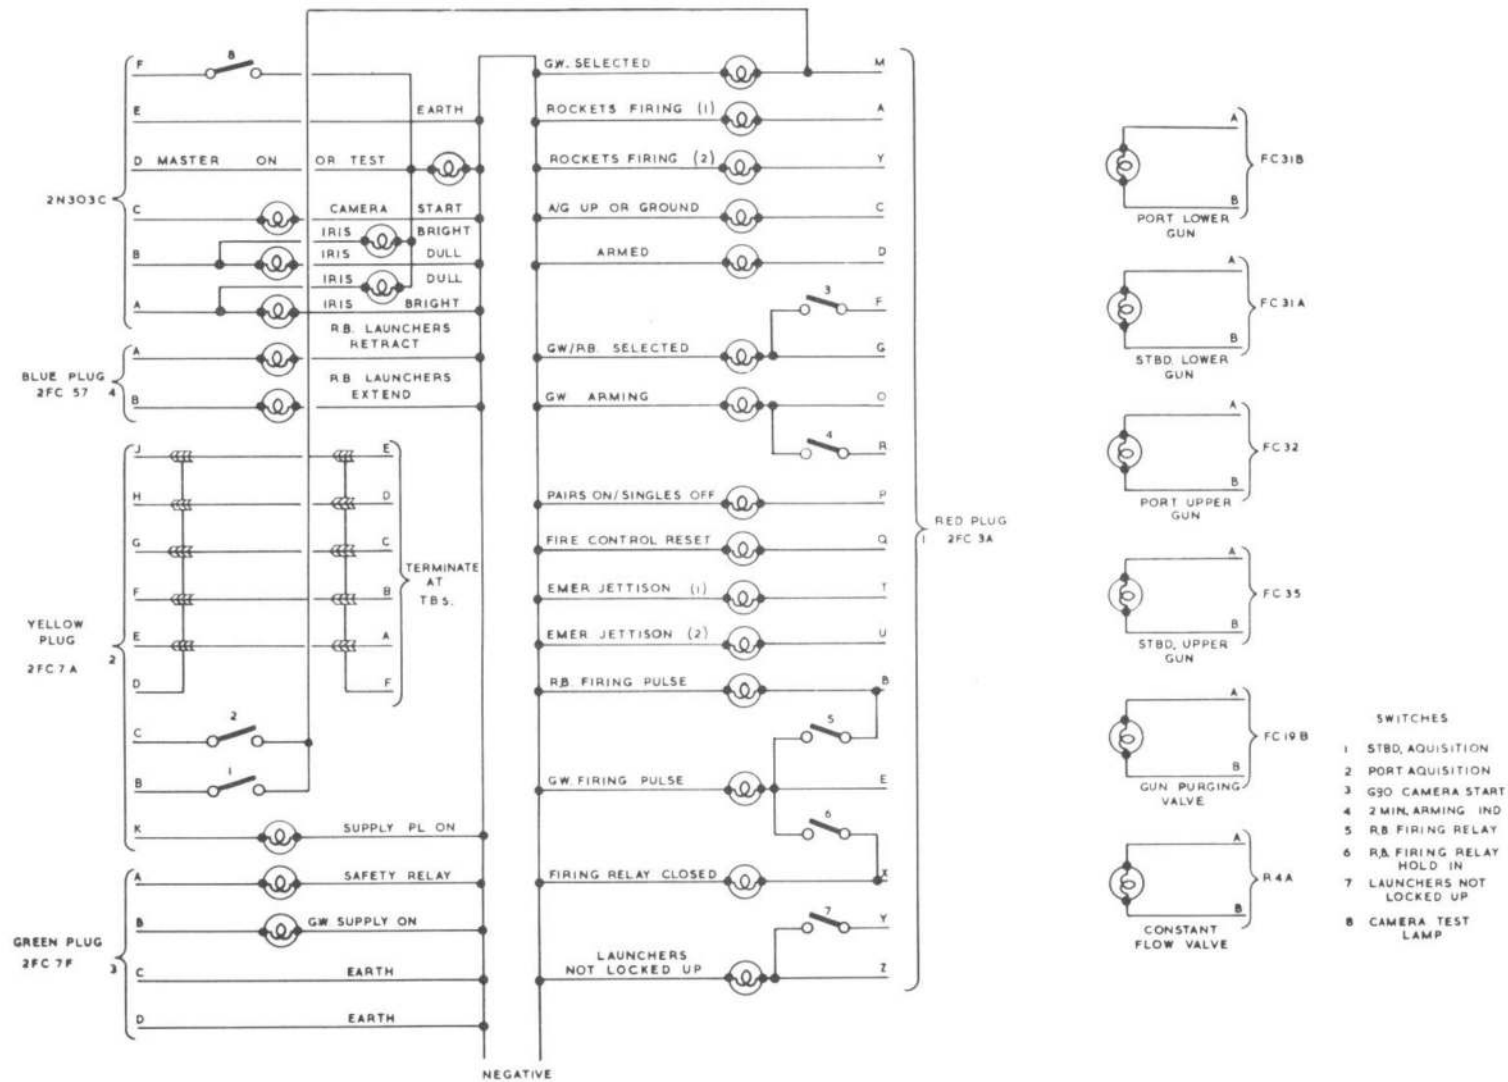

FIG.12. PACKS SIMULATOR-TEST RIG
(1) Aircraft should have no ventral tank fitted and should be jacked clear of the ground.
(2) Connect the pack simulator test rig to the aircraft as indicated on fig.12.
(3) Ensure that the armament safety-break is DISCONNECTED.
(4) Ensure that the ground arming link is NOT fitted.
(5) Ensure that the switches in the aircraft are set as follows:-